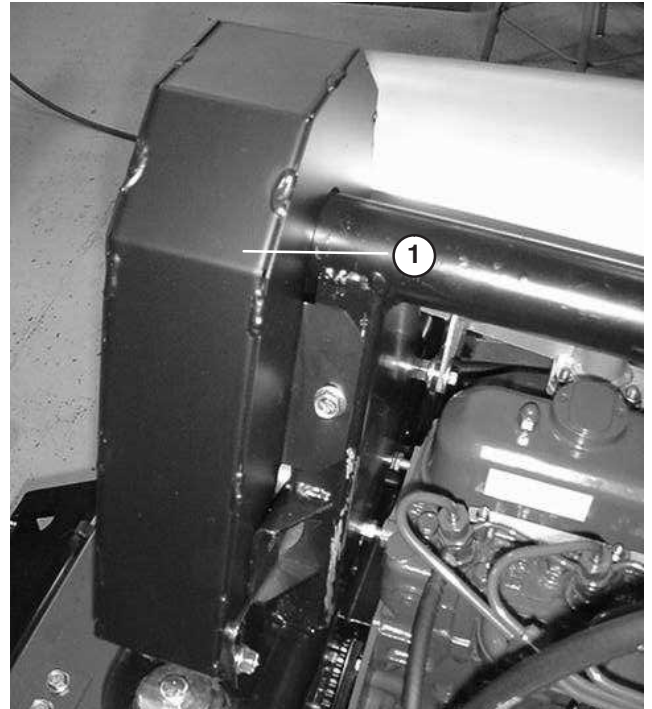

**Figure 54**
2. Proper tension will allow 3/8 in. (10 mm) deflection when a force of 10 lbs. is applied on the belt (Fig. 54) midway between the pulleys.